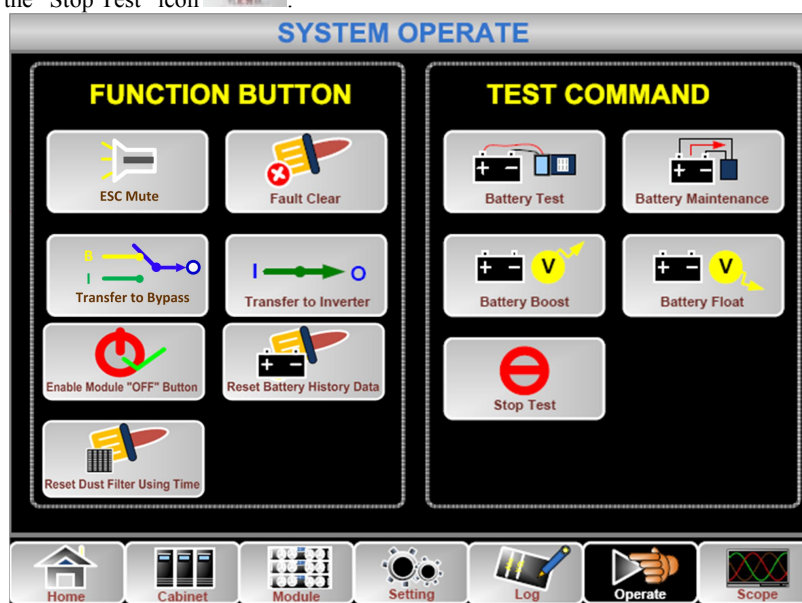

Figure 5-3 Battery maintenance
- 1) Manual Discharging test. Enter the menu Operate, as is shown in Figure 5-3 and touch the icon “Battery maintenance”  , the system transfers into the Battery mode for discharging. The system will stop discharging when the battery will have 20% of capacity or in low voltage. Users can stop the discharging by touching the “Stop Test” icon .
The parallel interfaces are located in the back panel of the cabinet , open the panel can see . The parallel terminal is shown in Figure 5-3